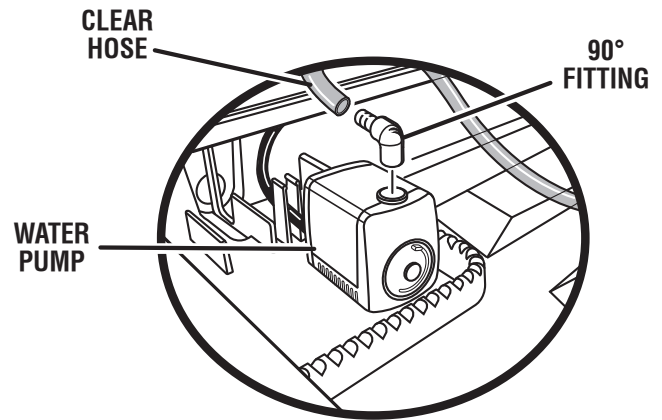

Fig. 10
- Place the water pump power cord in the notch provided on the water tray as shown in Figure 10.